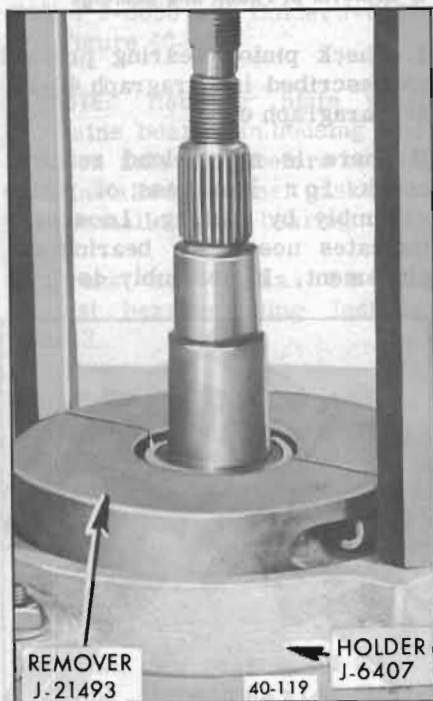

Figure 40-106—Removing Rear Pinion Bearing
5. If rear pinion bearing is to be replaced, remove rear pinion bearing from pinion shaft using Remover J-21493 with Holder J-6407. See Figure 40-106.